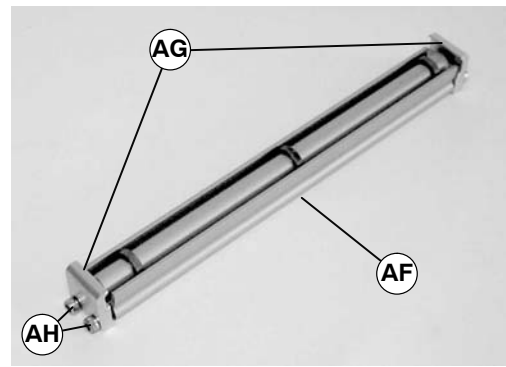

Figure 16
2. Loosely attach two clips (AG of Figure 16) on roller and guard assembly (AF) with four screws (AH). Do not tighten screws.
3. Attach return roller assembly (AI of Figure 17) on conveyor (Y). Tighten screws (AH of Figure 16) to 80 in-lb (9 Nm).